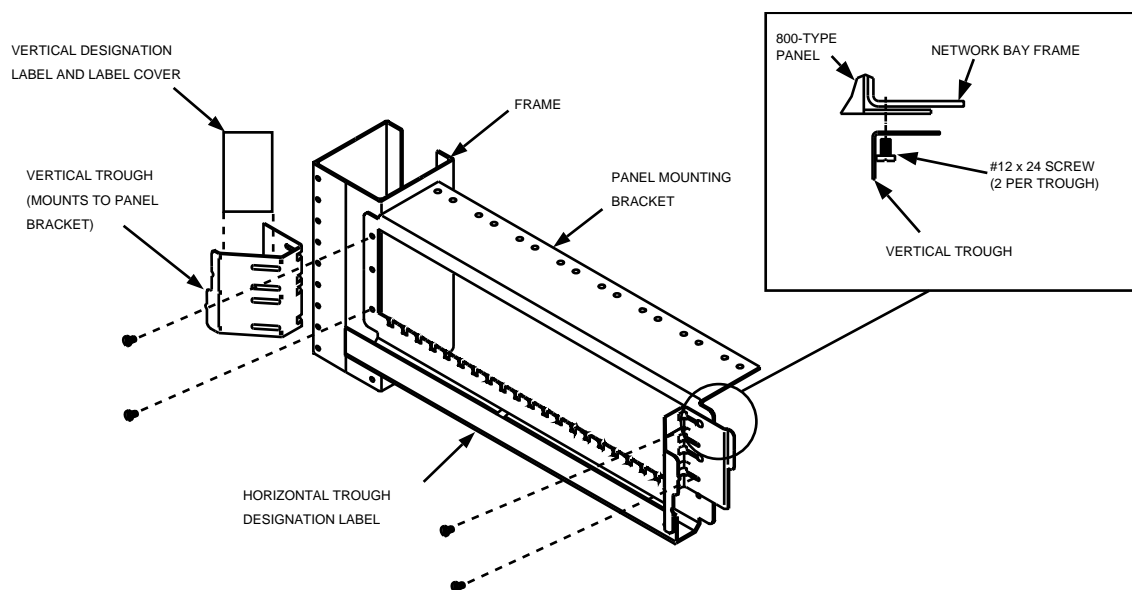
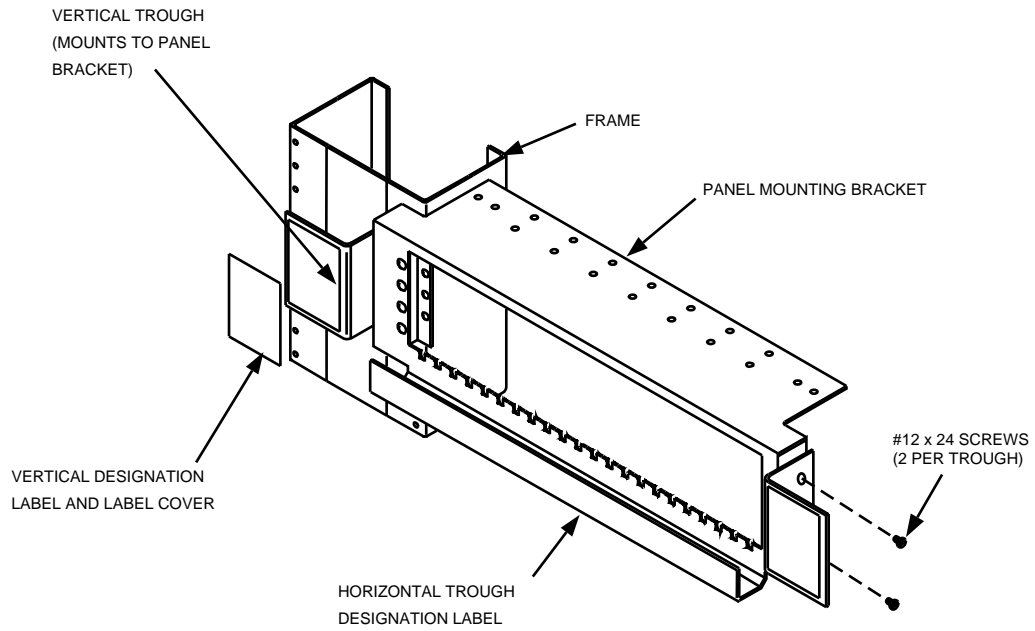
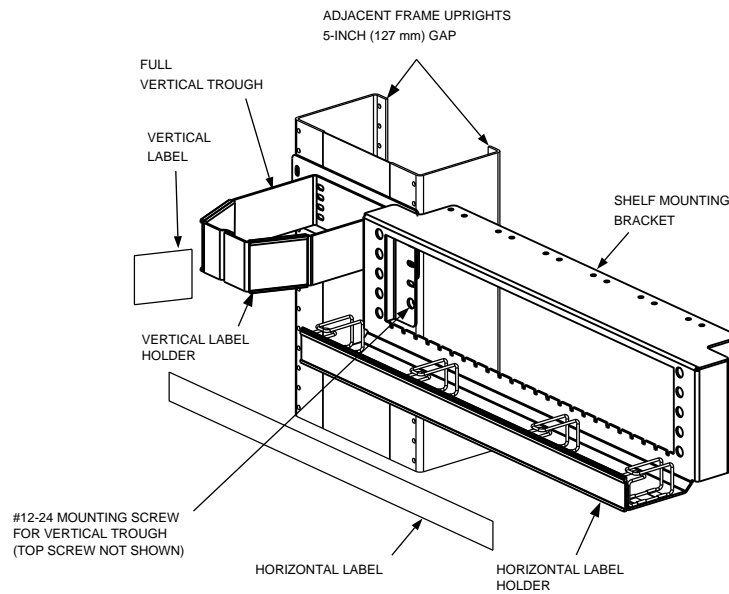

Figure 1. 800-Type Panel
Figure 2. 900-Type Panel
Figure 3. 900-NSD Type Panel
The following procedures describe how to mount the panel mounting bracket to the Network Bay Frame for the 800-type panel and the 900-type panel. Refer to Figure 1 to install 800-type panels, and Figure 2 on page 4 to install mounting brackets on 900-type or 900-NSD-type panels.
3. Slip the vertical designation label and clear label cover into the vertical troughs (see Figure 1, Figure 2, and Figure 3 on page 4).